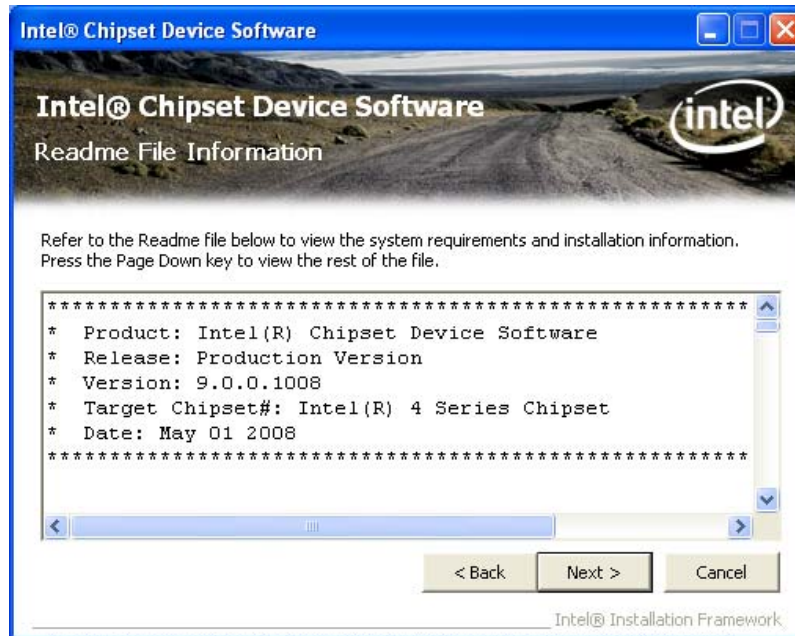

Figure 7-4: Chipset Driver Read Me File
Step 10: The **Read Me** file in **Figure 7-4** appears.